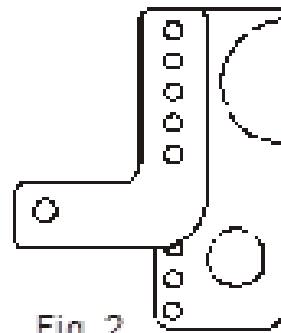

Fig. 2
4. Now with the cross member located, you will need to locate the positions of the upper shock mounting tabs and the housing brackets. An easy way of accomplishing this is to use a plum bob (a nut tied to a string will also work). Assemble both sets of upper mounts (two tabs, 1 ½" ID x 1 ¼" in. wide sleeve or 1" wide bearing, one ½" x 2 ½" bolt and one ½" nut). Assemble both of the adjustable mounts (one left L-bracket, one Right L-bracket, one housing bracket, two 3/8" x 1 ¼" bolts, two 3/8" nuts). When assembling the adjustable shock mount brackets, the housing bracket is sandwiched between the two L-brackets. Align the L-brackets so the shock mount hole is approximately halfway down the housing bracket (Figure 2). This allows plenty of ride height adjustment, both up and down. It is suggested that for the installation process you substitute the lock nuts with standard nuts for ease of use.